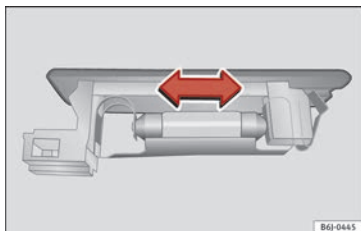

Fig. 195 Boot light.
- Press the bulb sideways and remove it from its housing »» Fig. 195.